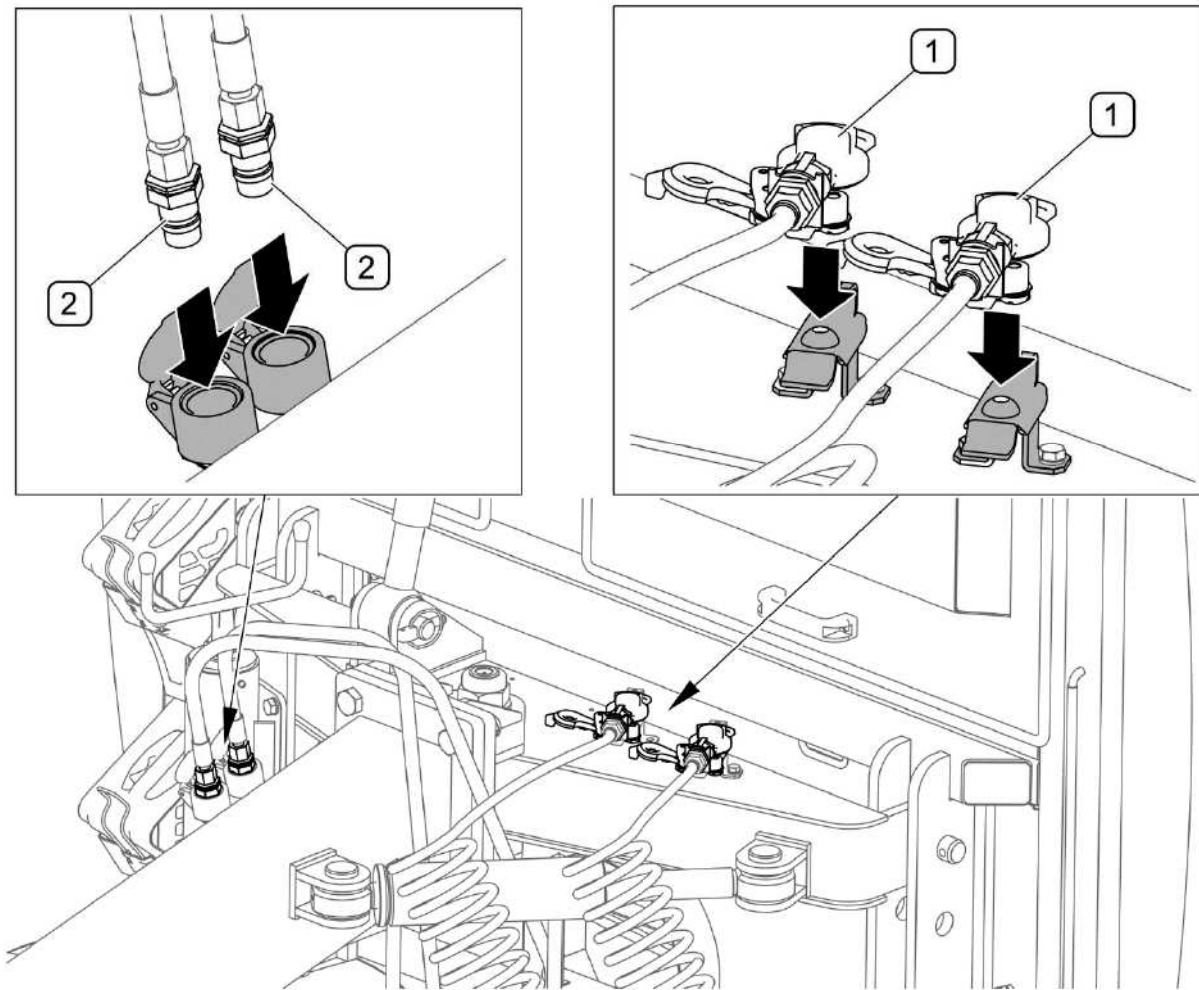

FIG. 4.16 Protection of plugs after disconnection from the tractor
- Insert hydraulic socket plugs of the hydraulic system for controlling tilting drawbar into securing sockets (FIG. 4.16)
- Place pneumatic socket plugs on the drawbar brackets (FIG. 4.16)